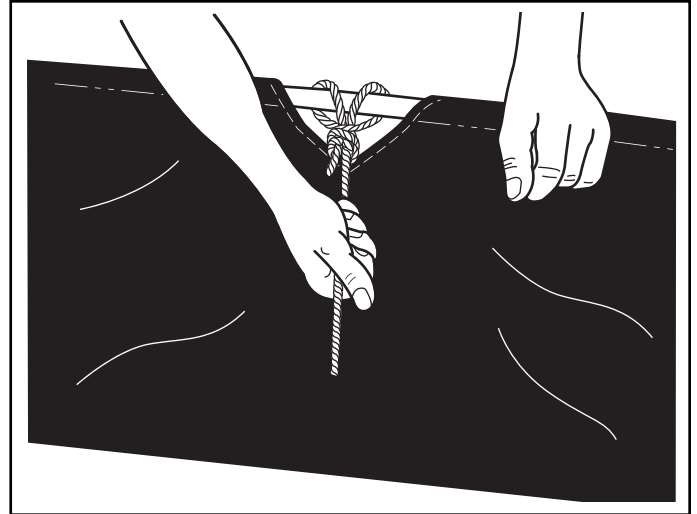

FIGURE 21
- Secure the rope to the top center of the hopper bag frame as shown in figure 21.
- To adjust your sweeper brushes to the best operating height, loosen the adjustment knob and push down on the height adjustment lever to raise the brush, or push up on the lever to lower the brush. See figure 21. Best adjustment is when the brush setting is 1/2" down into the grass. Always mow the grass to an even height before sweeping.